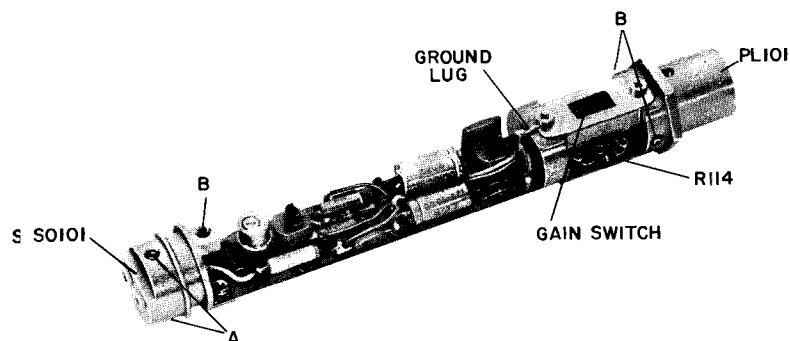

Figure 7-3. Interior view of the preamplifier.
- Turn in the two screws (A, Figure 7-3), using the hexagonal wrench provided.
switch (see Figure 7-3) to the desired gain, either X1 or X10, as engraved on the switch.
tube from the preamplifier (refer to paragraph 7.4.2). Then remove the screw holding the ground lug at the end of the gain switch (see Figure 7-3). Bend the connecting lead so that the lug can not contact the shell or any part of the circuit. Then replace the screw. Also, be sure that the circuit is not grounded to the shell by the input or output connector. If cable connections are used, a two-conductor shielded cable for the input and a three-conductor shielded cable for the output are required. The shields must connect to the shell. The low side of the preamplifier circuit connects to terminal #1 of the three-terminal output plug.
Attach the microphone to the preamplifier as described in paragraph 7.3.1. Connect the preamplifier to its power source and to the measuring instrument (which may also be the power source; refer to paragraphs 7.2.2 through 7.2.5). Slide the gain switch (see Figure 7-3) to the desired gain, X1 or X10, as engraved on the switch. When the gain is X10, subtract 20 dB from the decibel reading of the measuring instrument to obtain the noise level at the microphone.
Using the hexagonal wrench provided, screw in the three shouldered screws (B, Figure 7-3) until the cylindrical tube can be removed from the preamplifier. Figures 7-3 and 7-10 show the locations of the components.